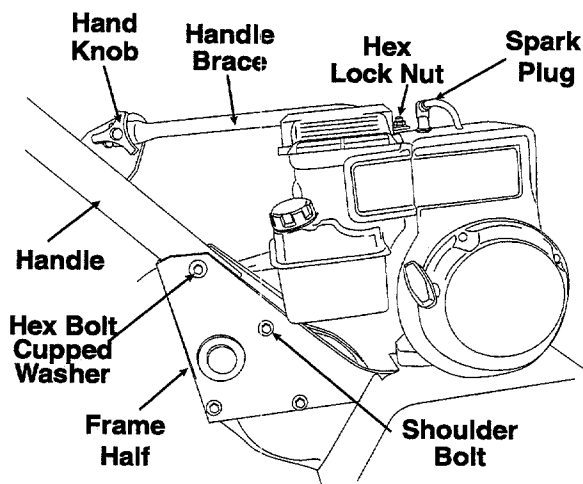

Figure 5
ATTACHING THE HANDLE ASSEMBLY (See Figure 5)
1. Remove the hex bolt and cupped washer from the top right side of the frame halves. Hold the cable guide bracket on the left side of the frame will fall when the bolt is removed. See Figure 5.